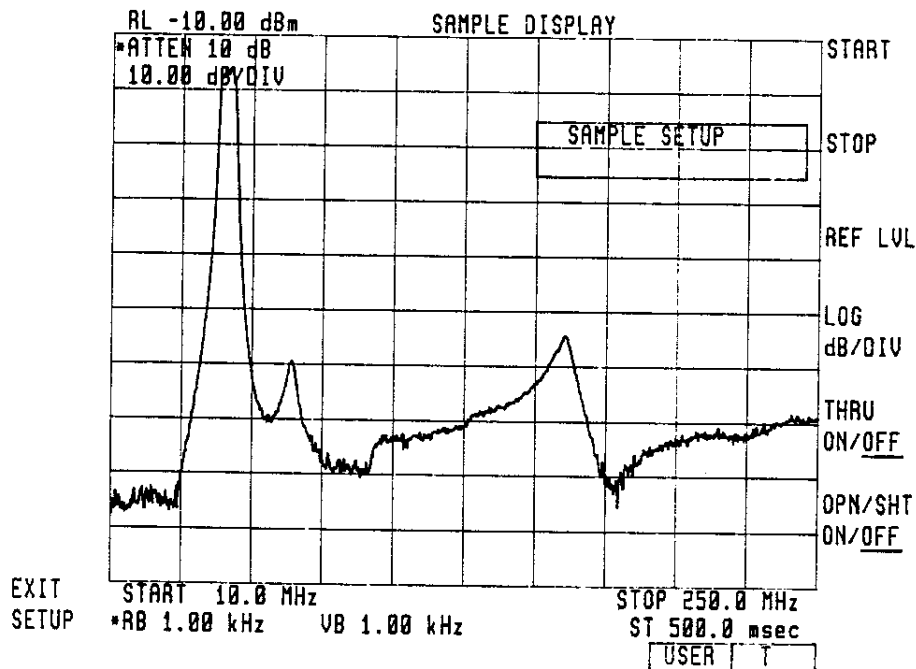

Figure 5-4. Setup Sample Menu
3. Press **setup sample**. Use the control knob, step keys, or entry keys to set the start and stop frequencies to view the filter rejection of the sample trace. Press **ACCEPT VALUE** after *each* entry (see Figure 5-4).